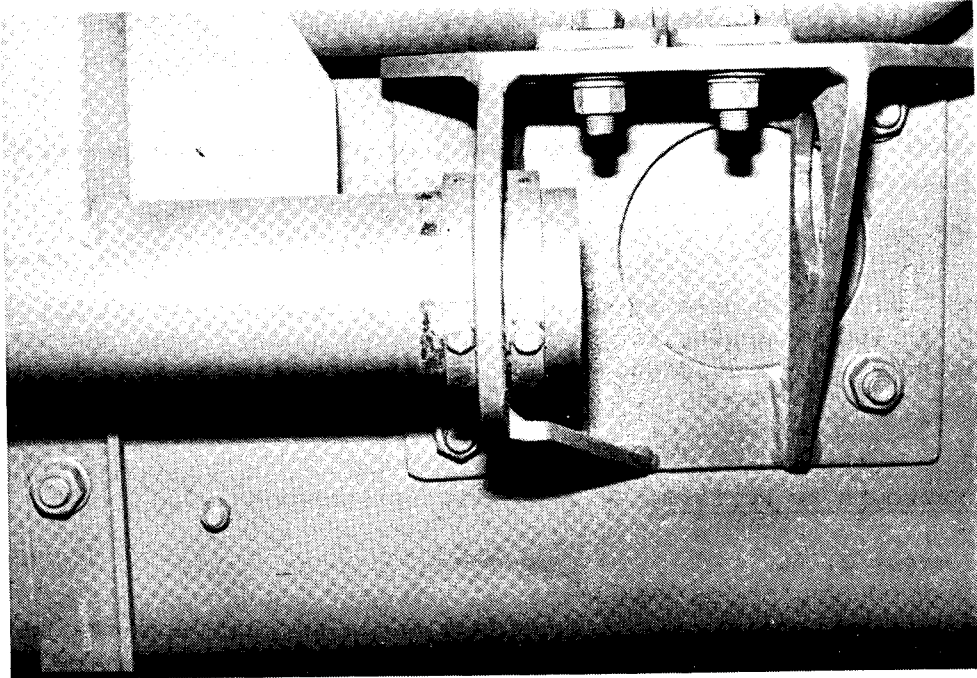

FIG 1 - COMPLETED MODIFICATION
7. To carry out the modification refer to Fig 1 and proceed as follows: